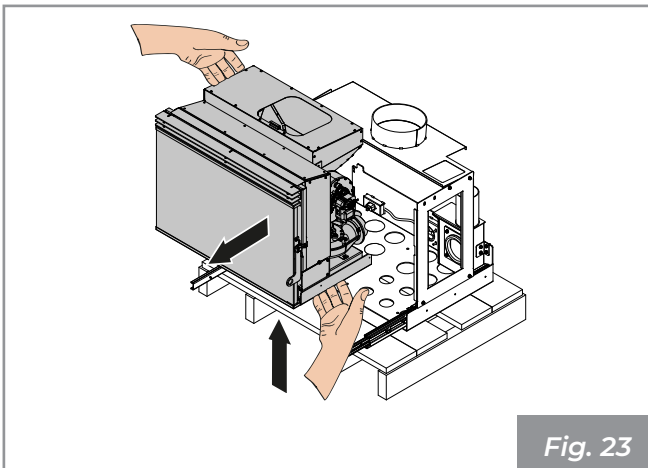

Fig. 23
- Lift the machine and remove it from the guides (**Fig. 23**);